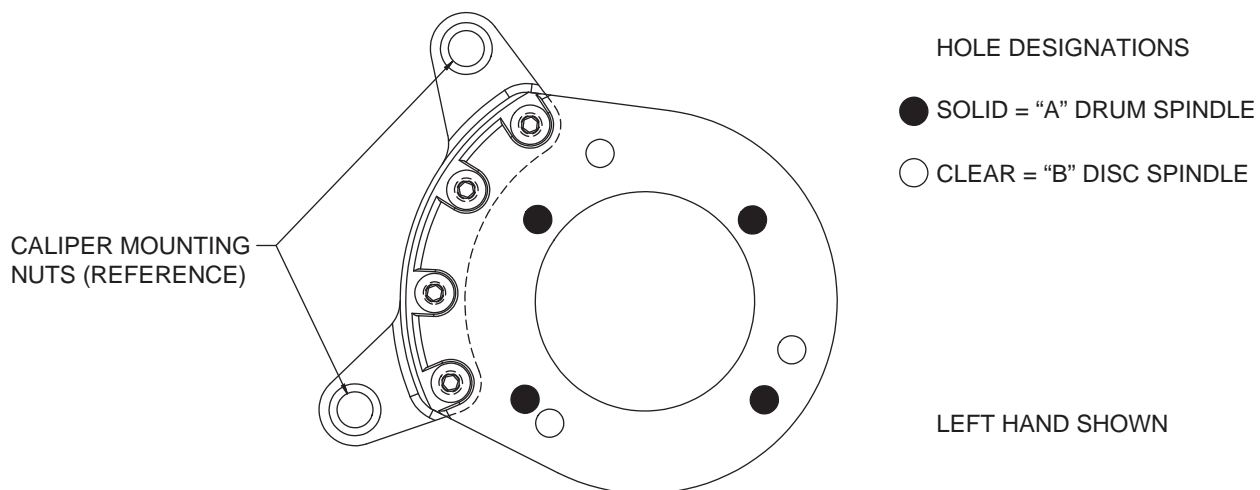
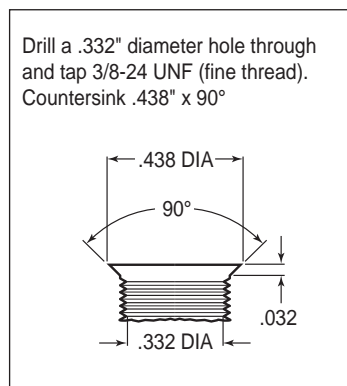
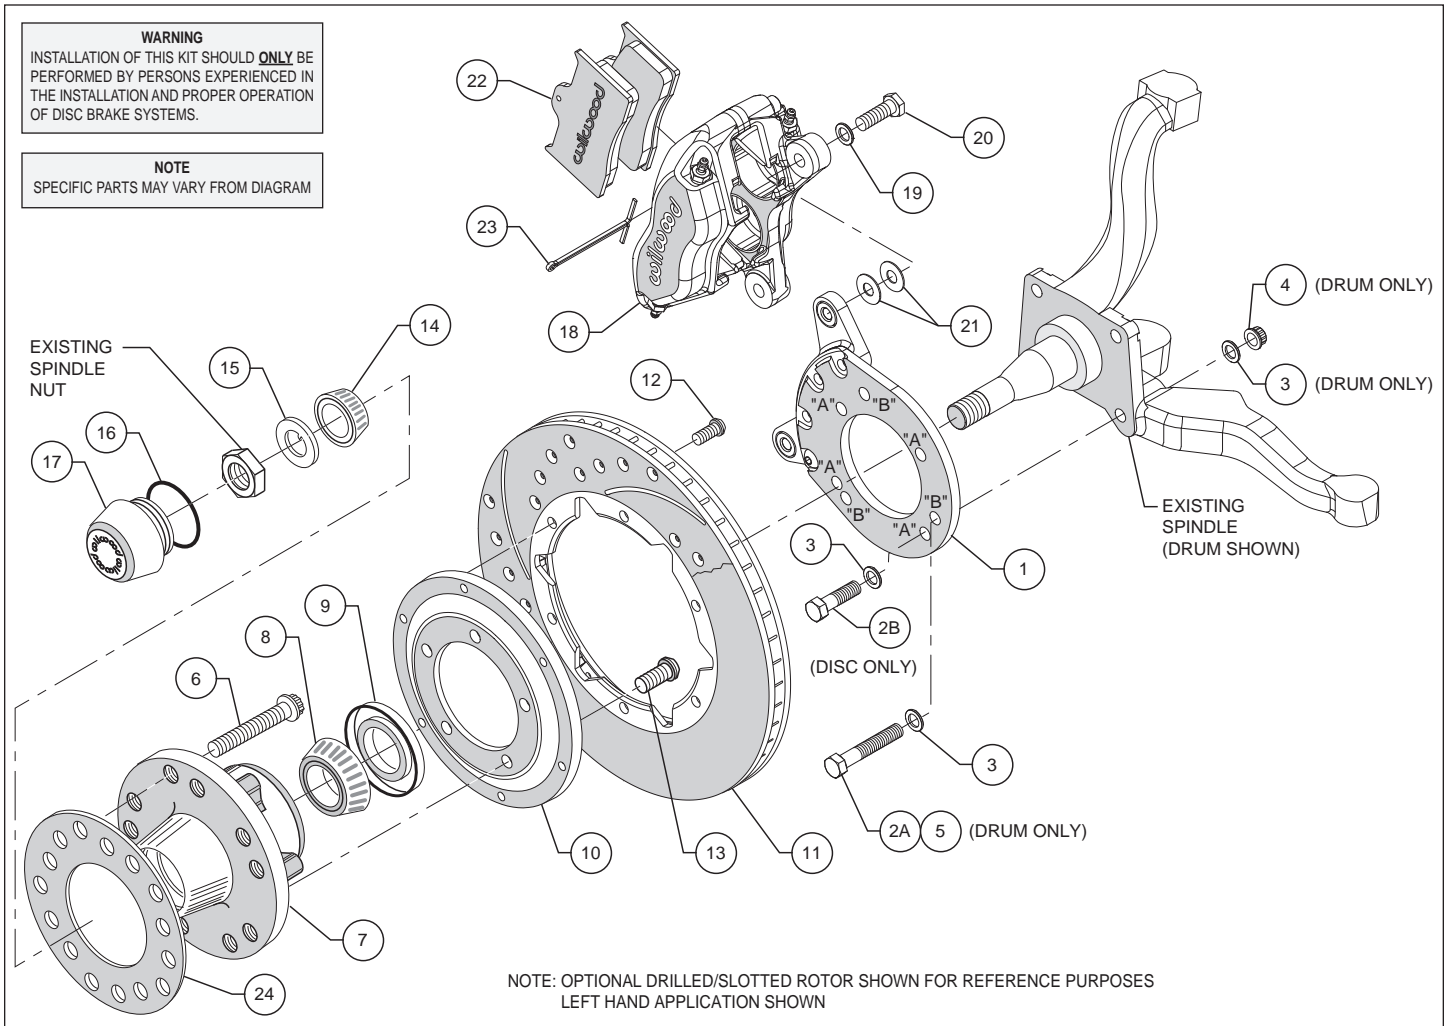
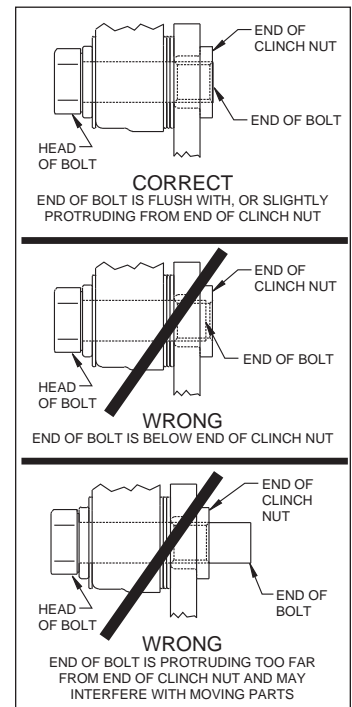

Figure 1. Wilwood Caliper Mounting Bracket
Figure 2. Drill and Tap Detail
Figure 4. Typical Installation Configuration
Figure 5. Clinch Nut Engagement Diagram
This kit has been designed for use with both the disc brake or the drum brake configuration of vehicle. The only difference is in how the Wilwood caliper mounting bracket is installed. The same bracket is used for both configurations; the disc brake version utilizes three mounting holes while the drum brake application uses four mounting holes (see Figure 1). For your convenience we have supplied bolt kits for both applications (see parts list and Figure 4 as necessary). Use the bolt kit that is applicable to your vehicle and disregard the other one.
NOTE: This modification should be performed by a qualified machinist and completed before assembly of the Wilwood disc brake kit begins. Using the caliper mounting bracket as a template (refer to Figure 1 as necessary), locate and verify the three original holes on the spindle that need to be modified. Drill a .332" diameter hole through all three holes, then tap 3/8-24 UNF (fine thread). Countersink the holes to .438" diameter x 90°, as shown in Figure 2.
Assembly Instructions (numbers in parenthesis refer to the parts list, and Figure 2 on the preceding pages): **CAUTION:** All mounting bolts must fully engage clinch nuts. Be sure to check that all bolts are either flush or protruding through flanged side of clinch nut after shimming, Figure 5.
•**NOTE:** This kit uses the same mounting bracket (1) for both the drum and disc brake spindles. The drum version, Photo 1, uses four mounting bolts (designated "A"), while the disc version, Photo 2, uses three (designated "B"). Refer to Figures 1 and 2 for the basic installation position of the bracket and the "A" and "B" reference designations (not physically marked on the brackets).
For Drum Spindle: Align bracket, using the four "A" holes, to the face of the spindle and attach using bolts (2A and 5), washers (3), and lock nuts (4), as shown in Figure 2. Ensure that the flanged heads of the clinch nuts in the bracket are facing outboard, Photo 1. Torque nuts to 30 ft-lb.
For Disc Spindle: Align bracket, using the three “B” holes, to the face of the spindle and attach using bolts (2B) and washers (3), as shown in Figure 2. Finger tighten. Ensure that the flanged heads of the clinch nuts in the bracket are facing outboard, Photo 2. Remove bolts one at a time, apply red *Loctite*® 271 to threads, and torque to 40 ft-lb.
- Install the grease seal (9) by pressing into the backside of the hub (7), flush with the end of the hub, Photo 4.
- Orient the rotor (11) and the rotor adapter (10) as shown in Figure 2 and Photo 5. Attach the rotor to the adapter using bolts (12). Using an alternating sequence, apply red *Loctite*® 271 to the threads, and torque to 25 ft-lb.
- Mount the adapter/rotor assembly (10/11) to the hub (7) using bolts (13), as shown in Figure 2 and Photo 6. Using an alternating sequence, apply red *Loctite*® 271 to the threads, and torque to 55 ft-lb.
- Pack the small outer bearing cone (14) with high temperature disc brake bearing grease and install into hub (7). Slide the hub/rotor assembly onto the spindle. Secure using spindle washer (15) and OEM spindle nut, Photo 7. Adjust bearings per OEM specifications. Install saved OEM nut lock (if any) and a new cotter pin (not included).
- Screw dust cap (17) into hub (7), Photo 8. Friction created by the o-ring (16) on the dust cap keeps it from unscrewing. **NOTE:** The O.D. of the existing OEM spindle washer may be larger than the I.D. of the dust cap not allowing it to seat against the hub face. Therefore, use the spindle washer (15) supplied with the kit instead of the OEM washer.
- NOTE:** Please reference the caution statement at the beginning of the assembly instructions. Mount the caliper (18) onto the caliper mounting bracket (1) using bolts (20) and washers (19), as shown in Figure 2. Initially place two .035” thick shims (21) on each bolt between the caliper and the bracket, Photo 9. Temporarily tighten the mounting bolts and view the rotor (11) through the top opening of the caliper. The rotor should be centered in the caliper, Photo 10. If not, adjust by adding or subtracting shims between the bracket and the caliper. Always use the same amount of shims on each of the two mounting bolts. **NOTE:** The end of each bolt must be flush with or slightly protruding from the head of the clinch nut, as shown in Figure 5. If necessary place spare shims between washer (19) and caliper